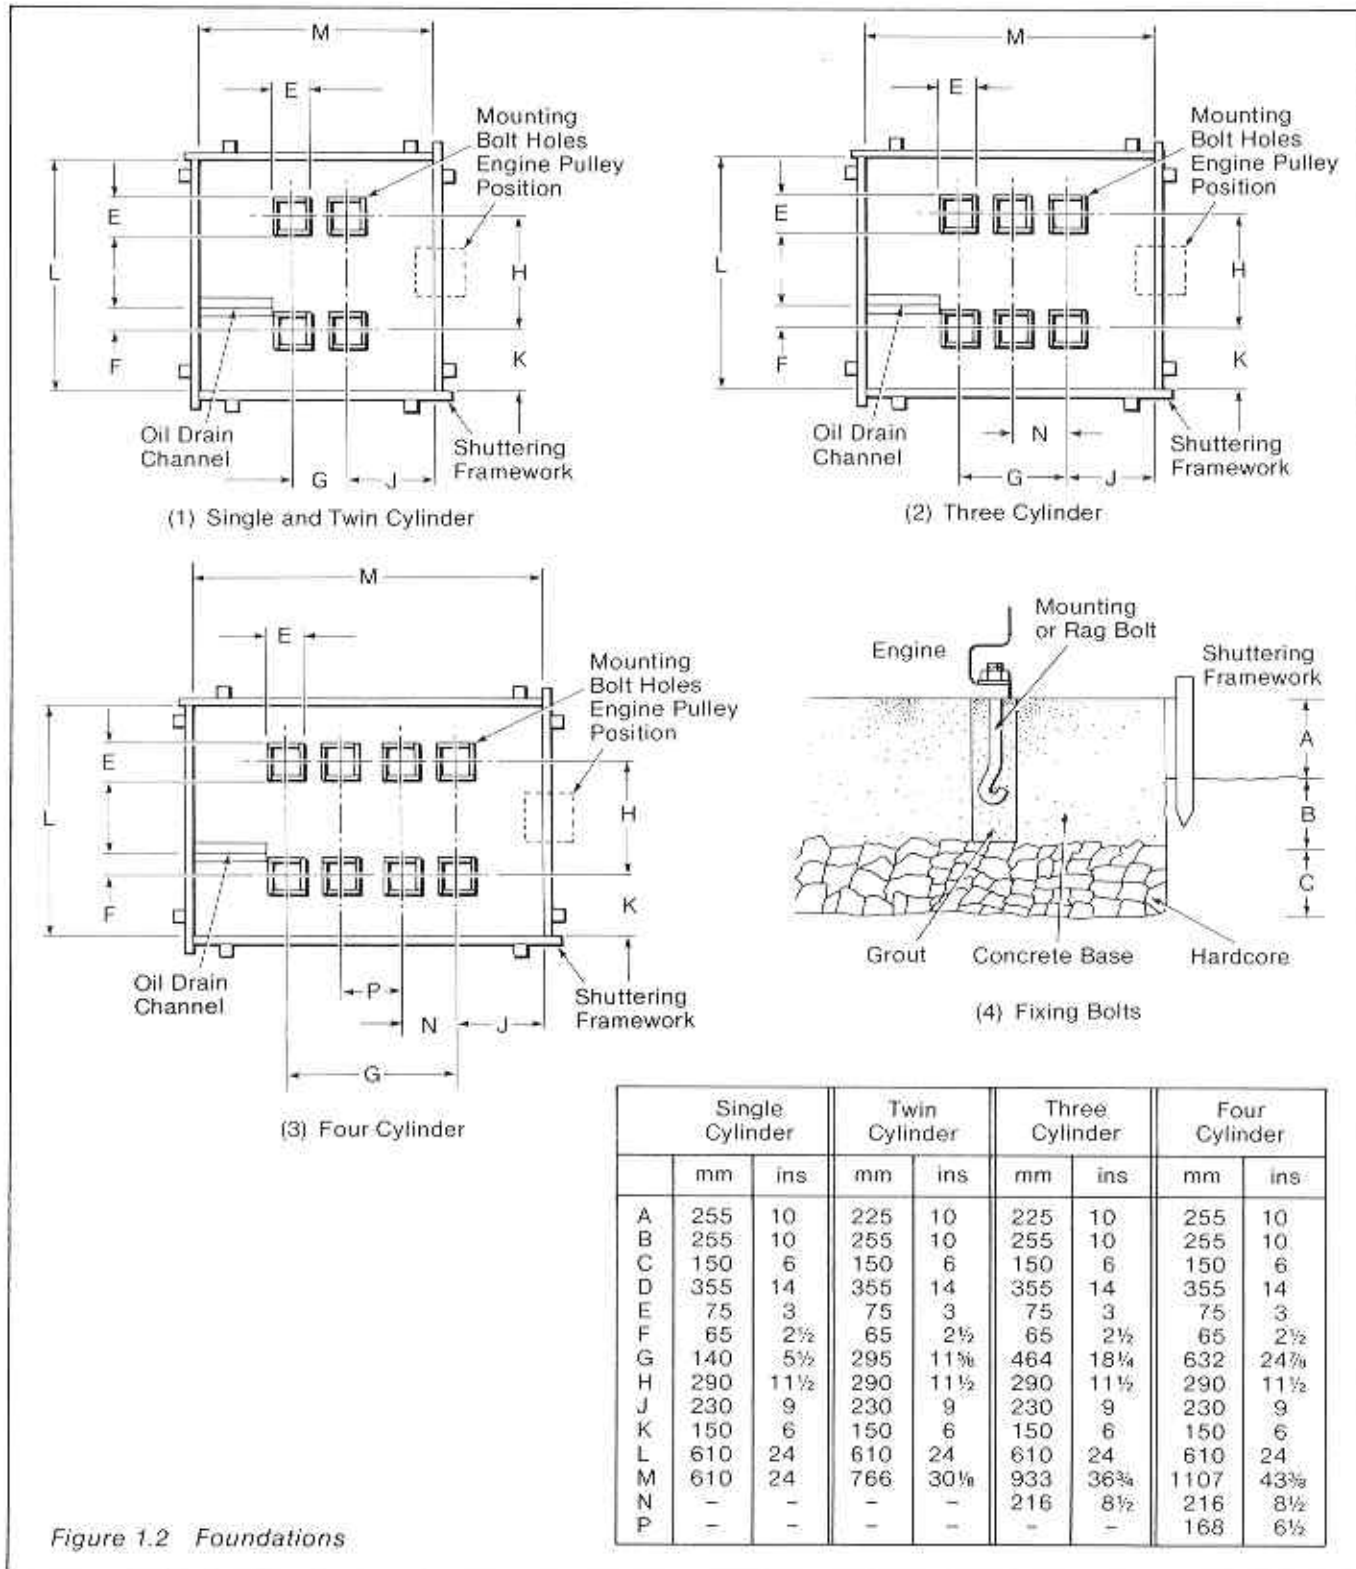

Figure 1.2 Foundations
1.8 To mount engines on a concrete base, foundations must be prepared as shown in Figure 1.2. The dimensions shown are for normal site conditions with solid subsoil and should be enlarged upon or a raft constructed, if a soft or made up ground condition exists. Surfaces should finish about 25 mm (1 in.) below the dimensions given to allow for grouting up. Foundation bolts can be supplied to special order only.